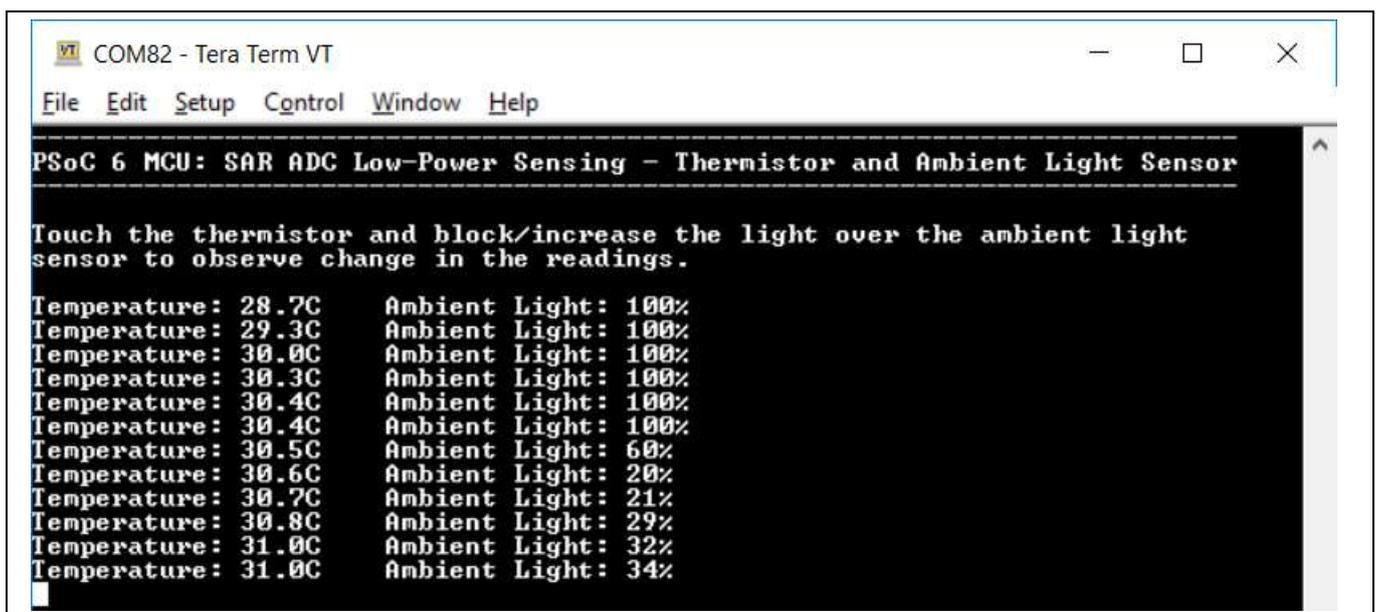

Figure 12 Tera Term window output of OOB code example
3. Press the reset button (**SW1**) on the board and confirm that the terminal application displays the code example title and other text as Figure 12 shows.